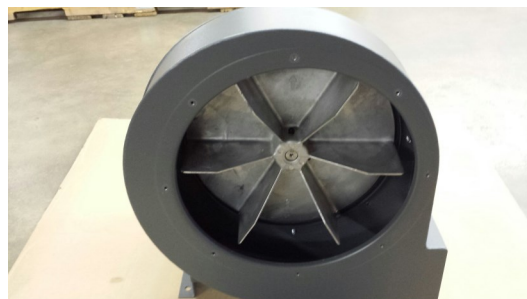

Figure 5
6. Slide the wheel onto the motor shaft (see figure 5) and insert key into key-way. Tighten the two allen screws onto the motor shaft. Adjust the motor so the wheel spins freely without rubbing on the housing. Tighten the bolts which anchor the motor.